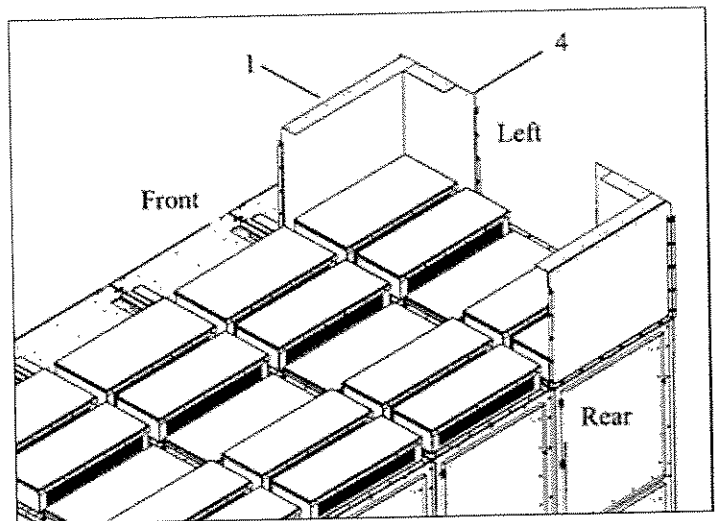

Figure 24. Detail of the Left Front Corner of the Arc Duct Plenum.
- Repeat Step 13-A but substitute the narrow vertical panel (3) with (4) as shown in Figure 24.